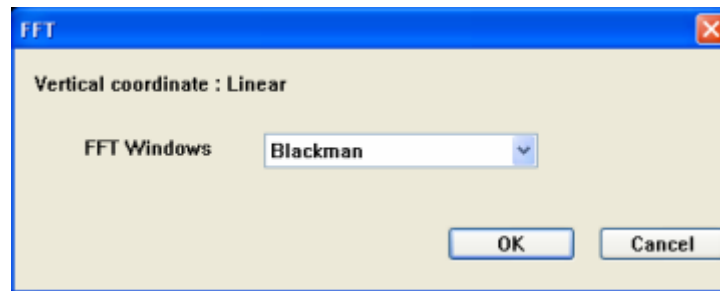

Fig.4-8
**FFT:** It is used for realizing Fourier transformation for the imported waveform. The window functions for choosing including Blackman, Hamming, Hanning and Rectangle. See Fig.4-8.
b. Choose File and Open in order in the menu and choose the waveform file through the correct path. See Fig.4-8.